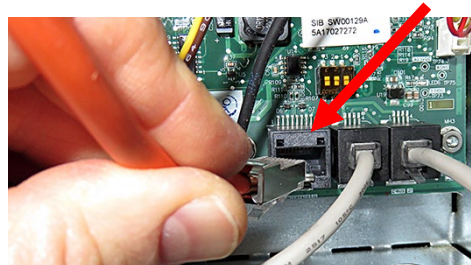

Figure 5
6. Disconnect the RJ45 cable from the SIB board first (see Figure 5).